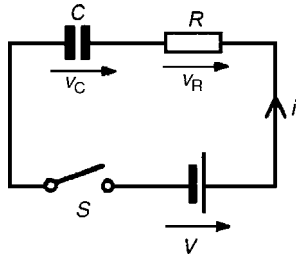

Figure 18.1
- (a) The circuit diagram for a series connected $C - R$ circuit is shown in Fig. 18.1. When switch S is closed then by Kirchhoff’s voltage law: